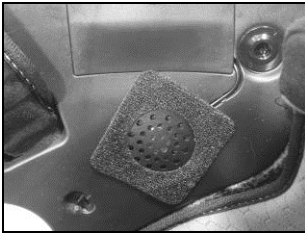

Fig. 15
- Position the left loudspeaker in its seat, inserting the cable in the special groove. If necessary, secure the earphone using the adhesive supplied as standard equipment (Fig. 15).